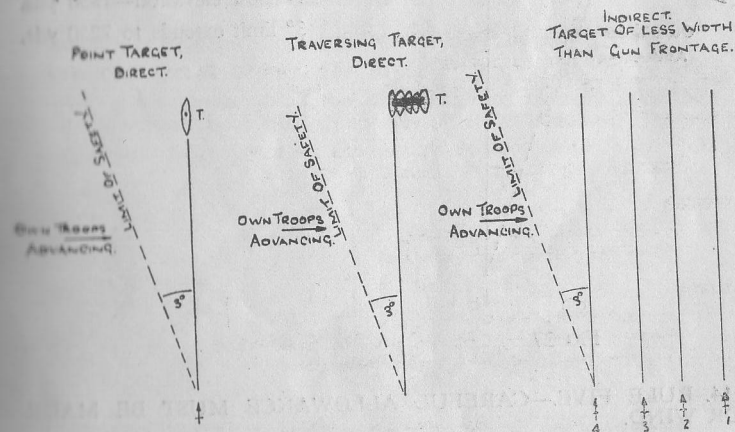

Fig 26
6. Lecture—Draw the diagrams given in Fig 26 on the blackboard.
11. RULE TWO.—BARRELS MUST NOT POINT NOR BULLETS FALL WITHIN THREE DEGREES OF OWN TROOPS. (*See* Fig 26 below).